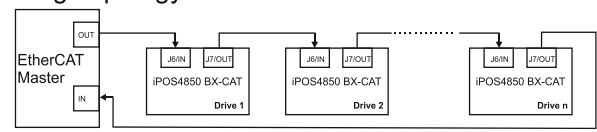

Figure 25. EtherCAT network ring topology
- Ring, when the J7 / OUT port of the last drive in the chain is connected back to the master controller, on the 2nd port of the master. This topology consists of the linear topology described above, plus an extra connection between the master, which has two RJ45 ports, to J7 / OUT of the last drive. See Figure 25. EtherCAT network ring topology for a visual representation of the ring topology.